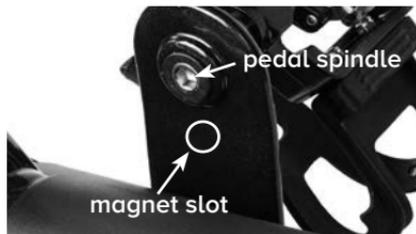

FIG. 2
2. For all Spinner bikes built by Precor®, place the magnet on the inside the dedicated slot near the pedal spindle (Fig 2 and 3). Slowly rotate the crank arm to ensure that the magnet does not collide with the chain guard.